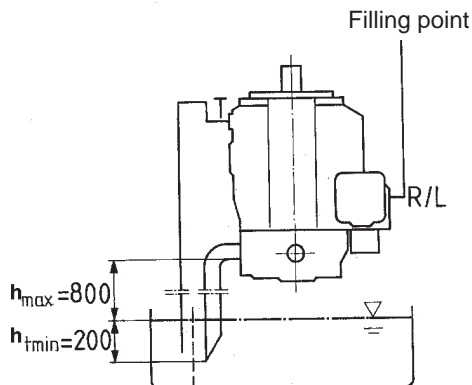

Fig. 2
b) If the minimum fluid level lies under the pump flange area then: ports »R/L«, »T« and possibly »S« have to be piped as shown in fig. 2. The conditions stated in point 1.2 apply.